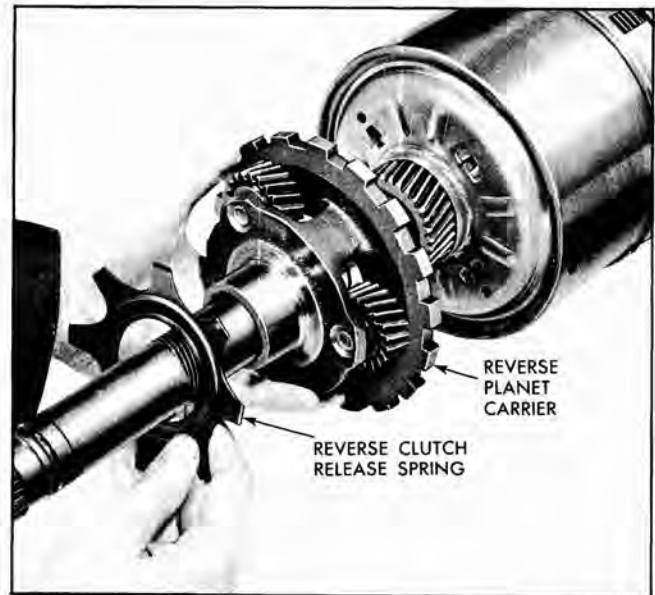

Fig. 62 Removing Reverse Planet Carrier
11. Remove reverse clutch release spring (circular with 8 tangs) from output shaft (Fig. 62).